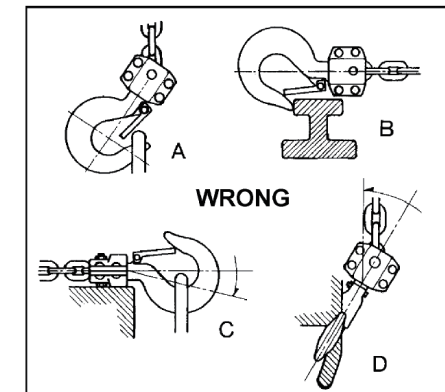

FIG 6
- Never load the hook in front of the safety latch (A, FIG 6).
- Never load the hook tip (B, FIG 6).
- Never load the hook off the centerline (C, FIG 6).
- Never load the hook sideways (D, FIG 6).